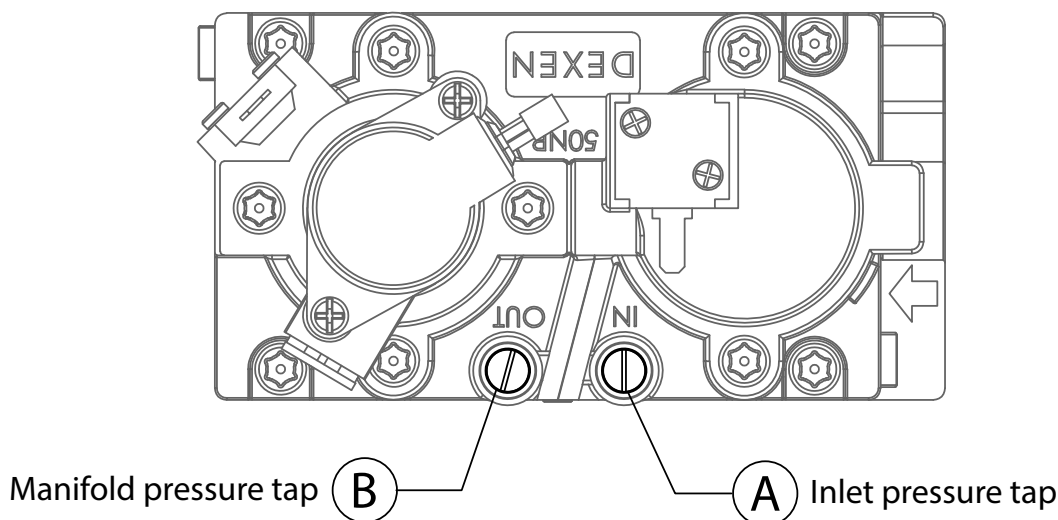

FIGURE 11.1 Pressure Check Taps
1. Loosen the inlet (IN) pressure tap by turning screw counter-clockwise. See (A) in **FIGURE 11.1**.
5. Disconnect hose and tighten the inlet (IN) pressure tap by turning screw clockwise. Screw should be snug. Do not over tighten.
6. Relight pilot and burner. Then reattach manometer to the inlet pressure tap (A) to verify the tap is completely sealed. Manometer should read no pressure.
2. Loosen manifold (OUT) pressure tap by turning screw counter-clockwise. See (B) in **FIGURE 11.1**.
7. Attach the manometer to the manifold pressure tap (B) to verify it is completely sealed. The manometer should read no pressure when pilot and burner are on.